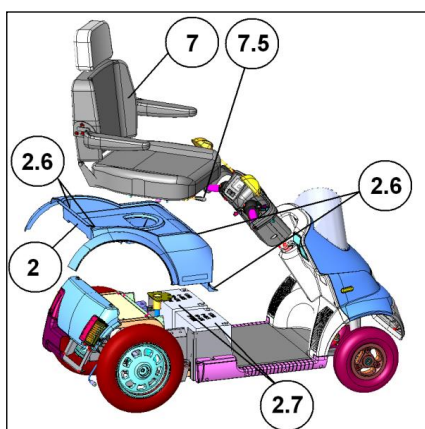
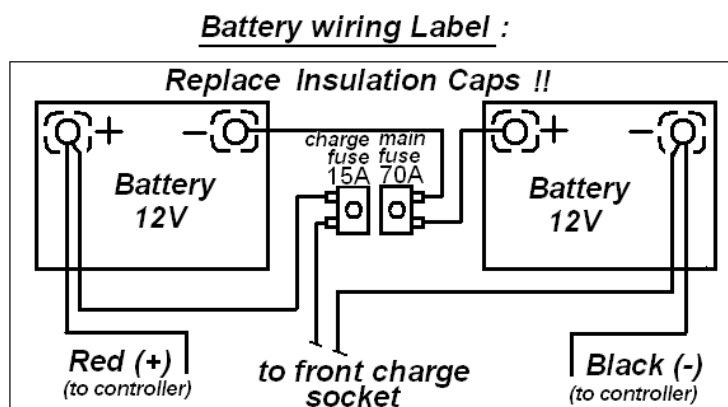

Figure 11
Figure 12
2. The numbers in parentheses refer to the parts illustrated in figure 11.
Replace batteries	<p>Note! Batteries must be replaced by trained professionals only.</p> <p>Warning! Batteries contain high energy and can spark, resulting in a possible fire hazard.</p> <p>Warning! Working with batteries can cause damage and Injury if not done properly.</p> <p>In this procedure, refer to Figure 12.</p> <ol style="list-style-type: none"> <li>1. Remove the terminal insulating cap from one battery terminal.</li> <li>2. Using a 10/13 mm key, unscrew the wiring from the terminal. Take care not to let the key touch any other terminal or metal part, as this could cause damage or injury.</li> <li>3. Repeat steps 1 and 2 for all the other terminals.</li> <li>4. Remove the old batteries and install the new ones.</li> <li>5. Connect the wires of the new batteries as shown in Figure 11 (also shown on the label located near the batteries).</li> <li>6. Screw down the terminals securely, and replace the insulating caps.</li> </ol>